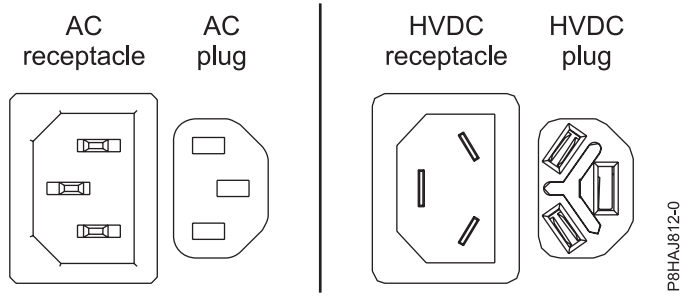
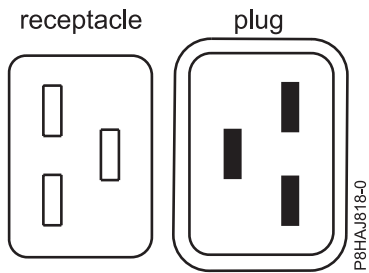
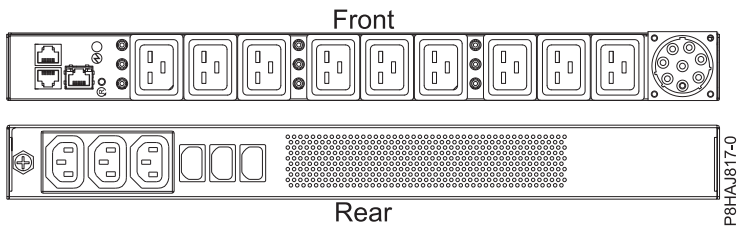

Figure 71. AC and HVDC connectors
Figure 72. Connectors for the 8408-44E system
Figure 73. PDU for the 8408-44E system
Figure 71 on page 100 shows the supported alternate current (AC) and high voltage direct current (HVDC) connectors. Figure 72 on page 100 and Figure 73 on page 100 show the supported connectors and power distribution unit (PDU) for 8408-44E.